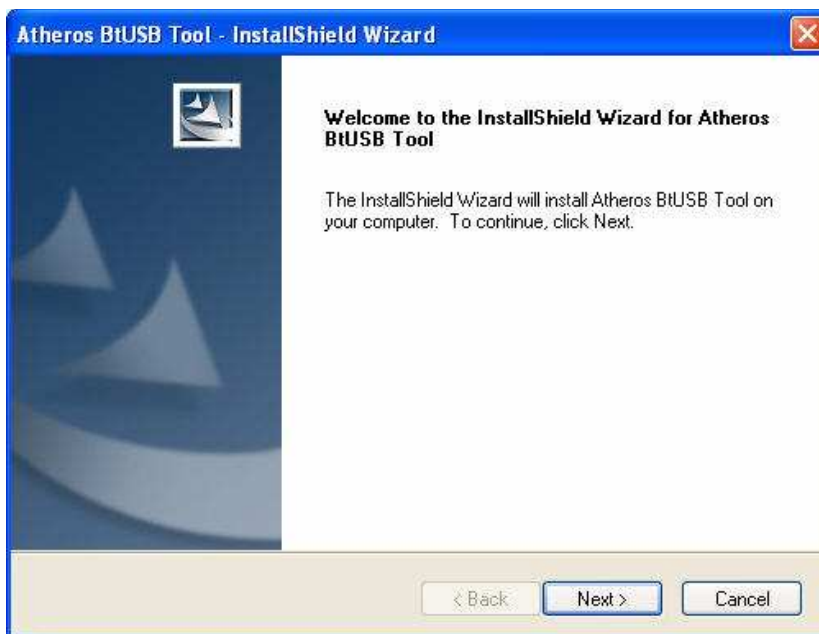

Figure 1-1. Launching the BtUSB Tool InstallShield Wizard
6. Double click on this file to install the BtUSB Tool. You will see the screen shown in Figure 1-1.